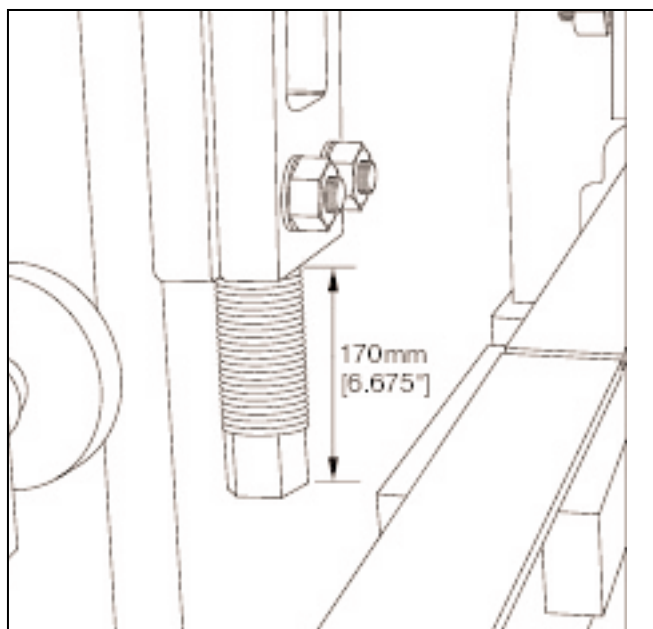

Figure 4.47 UPPER HEIGHT STOPS.
4.3.7 Adjust the upper height stops (**part #047356**) so that **170mm [6.675"]** extend past the bottom of the castings (figure 4.47).